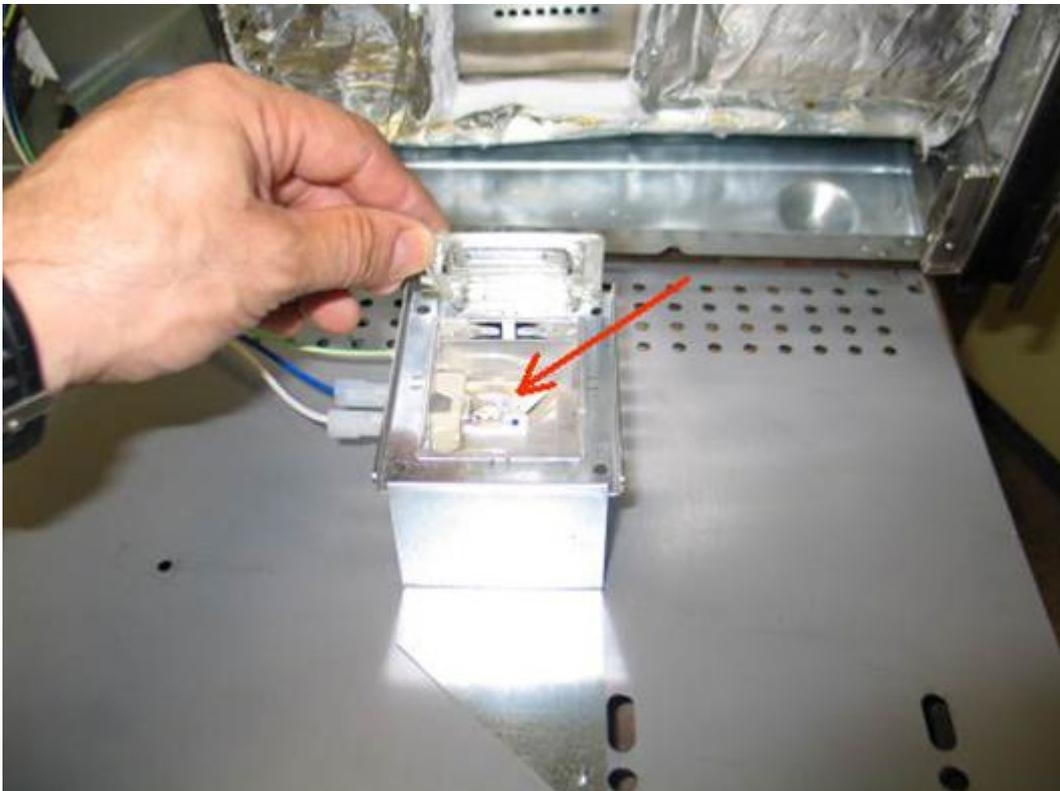

Figure 1
2. Remove the upper cover and back board cover if present (fig.1).